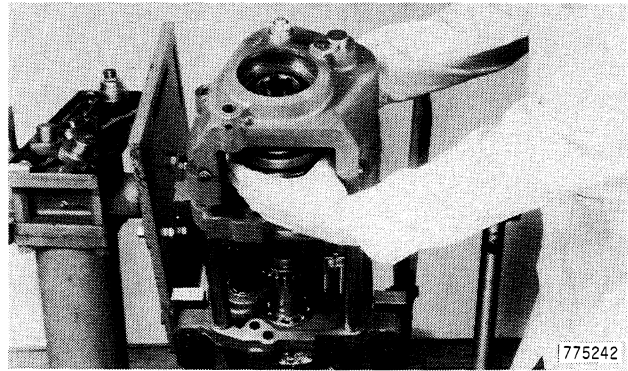

Figure 316
18. Align all gears and lower housing into position, Figure 316.